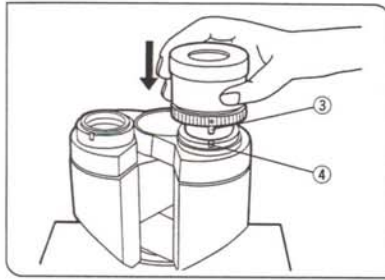

Fig. 9
When using a finder eyepiece or an eyepiece with diopter adjustment, inset it into the right-hand eyepiece sleeve. When doing so, make sure that the eyepiece positioning pin ③ fits into the notch ④ at the bottom of the eyepiece sleeve. (Fig. 9)